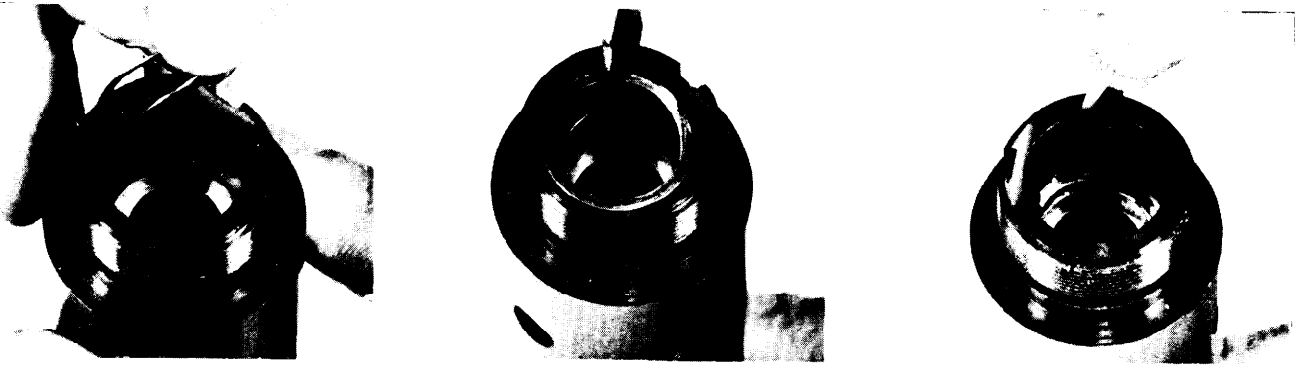

Figure 7 - Scraper and Retaining Ring Reassembly
2. Install the scraper retaining ring into the pump mount using Figure 7 and the following instructions.